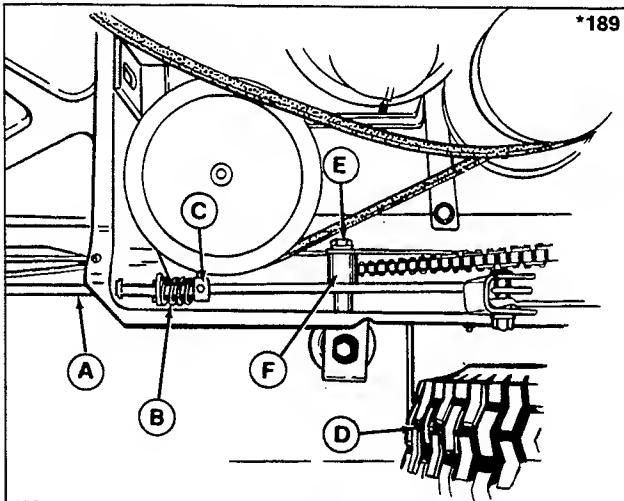

Figure 14. Clutch-Brake Adjustment (Viewed from underneath rider)
- With the pedal released, measure the length of the spring (B, figure 14). It should be between 1 inch and 1-1/8 inch. If not, loosen the setscrew. Move the set collar to compress or release the spring to attain correct length. Tighten the setscrew and recheck the measurement.
If there is too much slack in the chain, it can be adjusted. Loosen the capscrew (E, figure 14) and nut which hold the spacer (F) in place. Move the spacer toward the chain to tighten. Tighten the capscrew and nut. **Do not adjust chain so it is tight.**